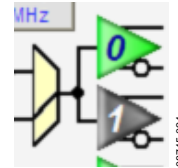
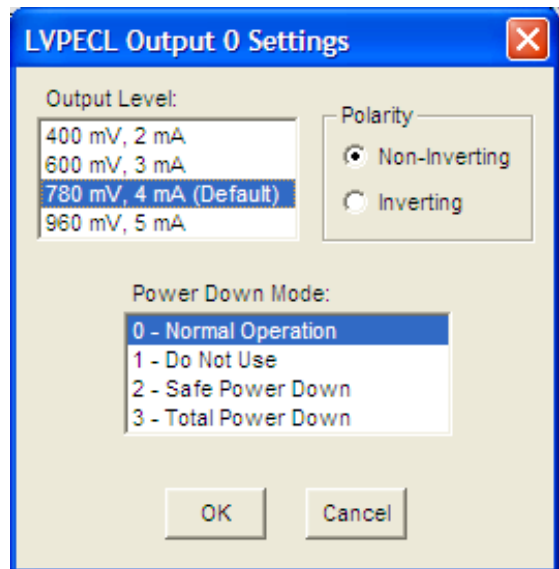

Figure 7. Driver Symbol
Figure 20. LVPECL Output 0 Driver Window
11. Power down unused drivers, click the numbered triangular symbol on the right side of the main window (see Figure 7), select **2 - Safe Power Down**, and click **OK** (see Figure 20).
The LVPECL Output 0 Settings window shown in Figure 20 is accessed by clicking the OUT0 through OUT5 output driver symbols on the right side of the main window (see Figure 19).